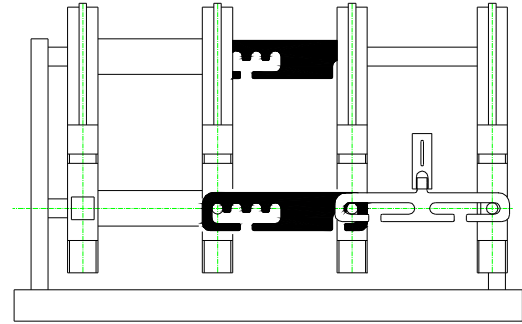

Figure 2. Configuration 3 moveable clamps + 1 fixed clamp
- One fixed clamp and three moveable clamps Fig. 2